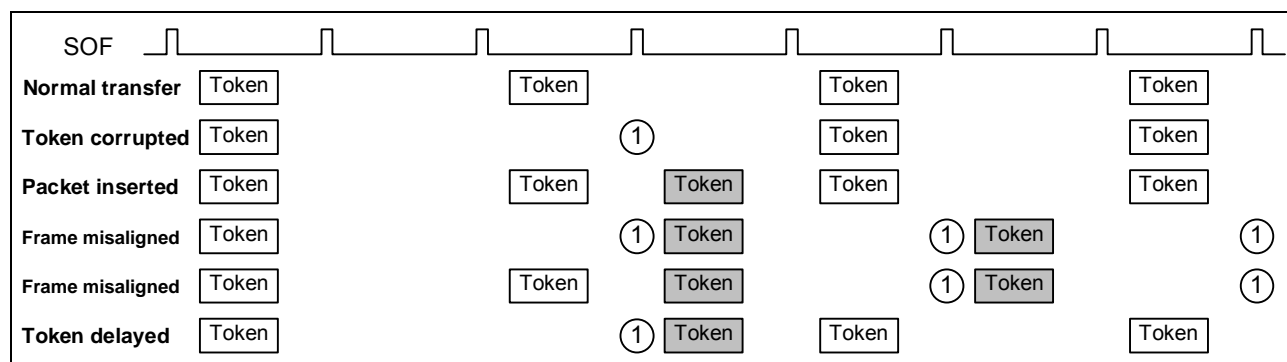

Figure 3.28 Example of interval error being generated when "IITV=1"
Figure 3.28 shows an example of the controller generating an interval error. There are five types of interval errors, as noted below. The interval error is generated at the timing indicated by ① in the illustration, and the IN buffer flush function is activated.